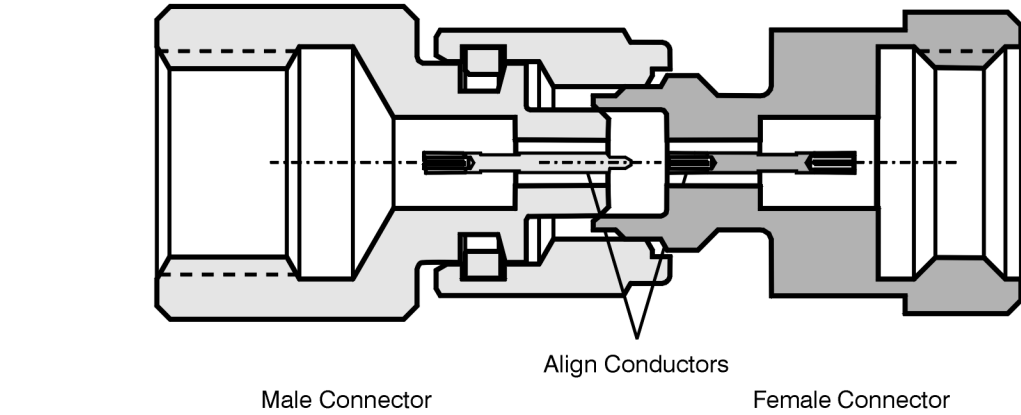
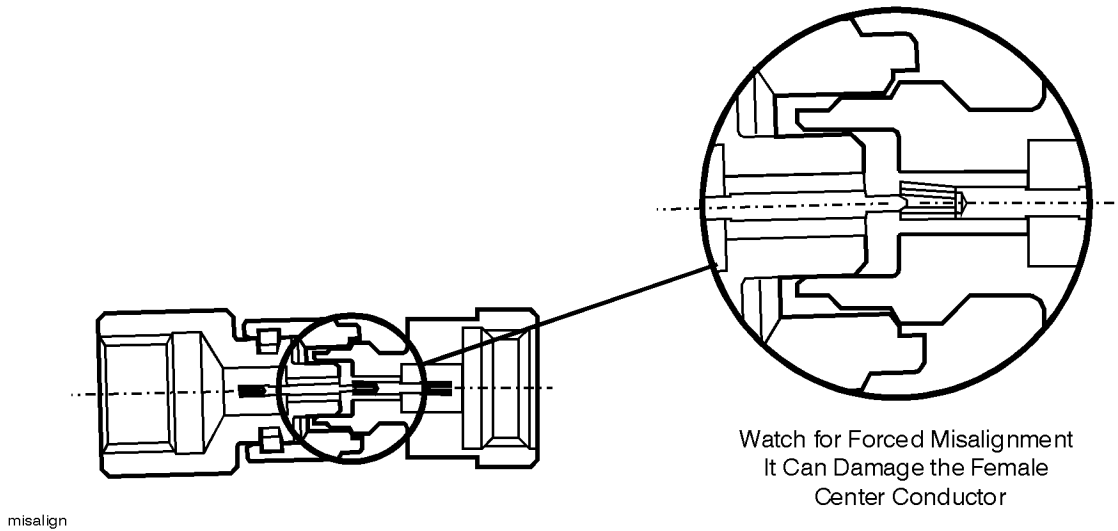

Figure 3-5 Alignment
Figure 3-6 Misalignment
If one of the connectors is free to move, this will make it possible for the connectors to self-align during connection. Self-alignment occurs because outer conductors engage before the center conductors (see Figure 3-5 and Figure 3-6 on page 3-9).
4. Carefully align the connectors. The male connector center pin must slip concentrically into the contact fingers of the female connector (see Figure 3-5 on page 3-9 and Figure 3-6 on page 3-9).